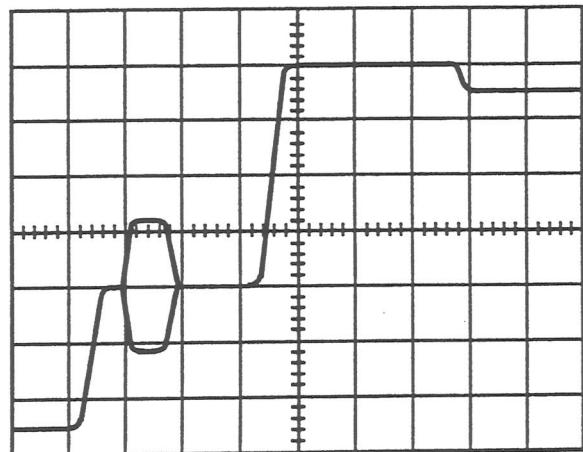

figure 12
- Reduce the sweep speed (18) to 2 µs/div. The beginning of the line is expanded with the trigger point unchanged (line sync pulse) (figure 12).